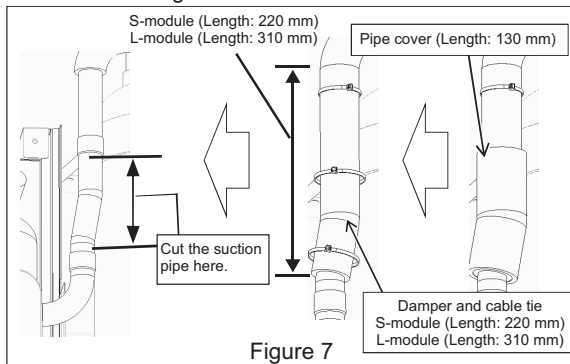

Figure 7
- (7) Remove the pipe cover and the damper, and cut the suction pipe where indicated in Figure 7.
*When re-placing the pipe cover and the dumper, use the ones with the sizes shown in Figure 7, which are supplied with the replacement compressor.